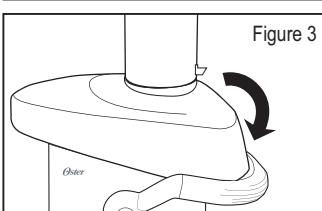

Figure 3
- Unlock the safety locking arm and move it to the right and down to release the cover/lid (**Figure 3**)